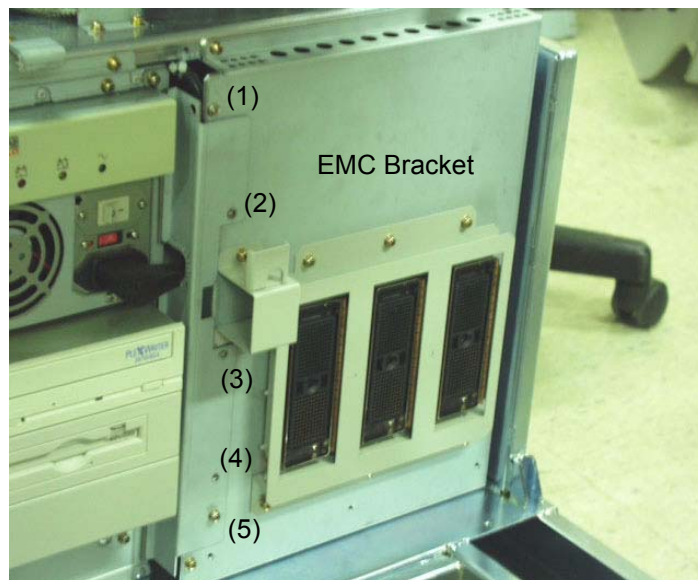

Figure 8-112 Unscrew 5 screws to remove EMC BRKT
- 3.) Unscrew five (5) screws (1-5) to remove the EMC Bracket. Refer to Figure 8-112 on page 8-62 .